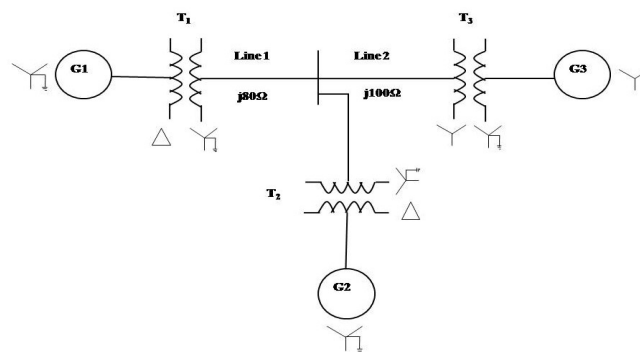

Fig.1
3. Draw the reactance diagram for the power system shown in Fig.1. Neglect the resistance and use a base of 50 MVA and 13.8 KV on generator G₁.